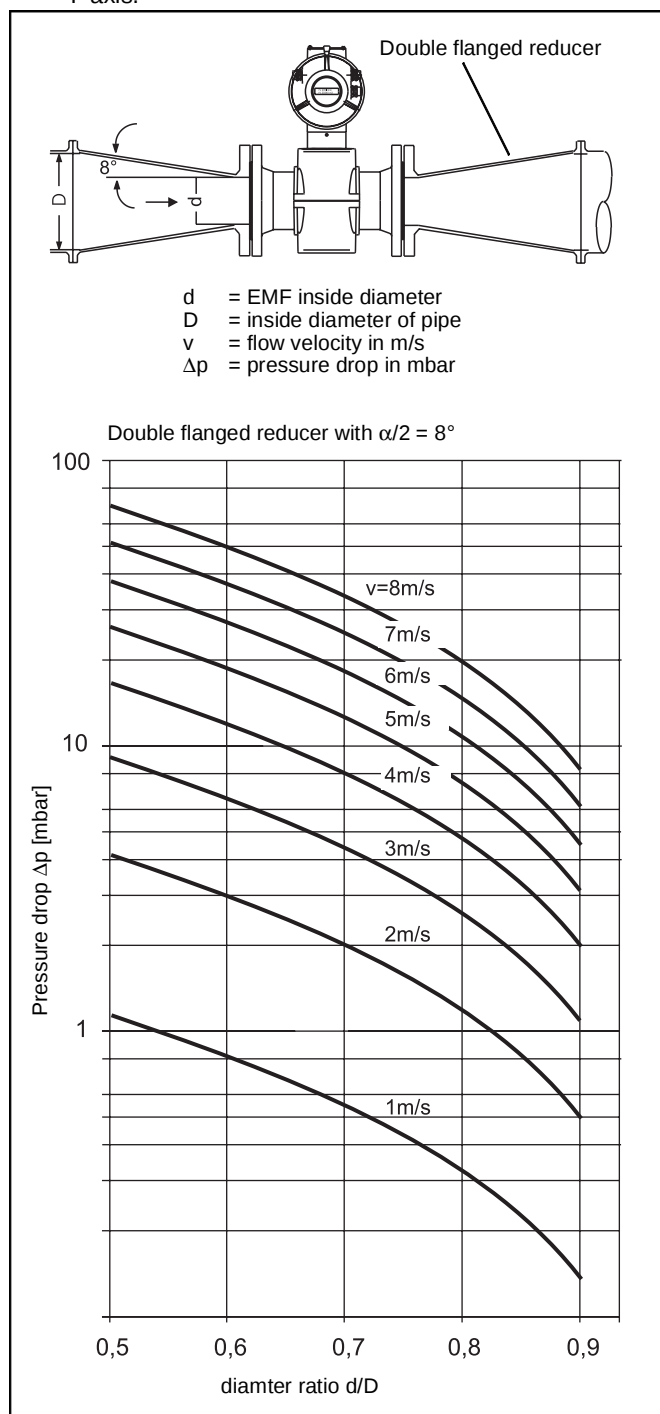

Fig. 7 Pressure drop nomograph
The flowmeter may be installed without concern in pipelines larger than the flowmeter through use of double flanged reducers (e.g. per DIN 28545). The resultant pressure drop caused by the reducer can be determined from the diagram in Fig. 7. The following procedure is to be used to determine the pressure drop:
3. In Fig. 7 at the intersection of diameter ratio d/D (X-axis) and the flow velocity value read the pressure drop on the Y-axis.